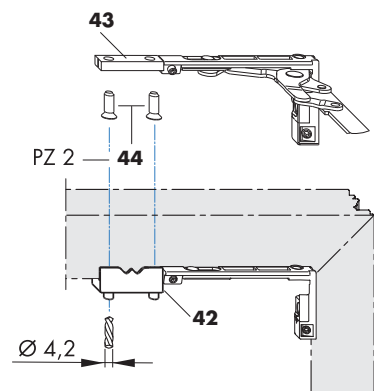

Fig. 1
1. Insert the BS axxent 130 jig kg (42) on loosened stay, as shown in the adjacent diagram (fig. 1).
2. Drill holes  $\varnothing 4.2$  for mounting bracket BSO A0040 (43).
3. Insert the BSO A0040 supporting piece (43) into the frame groove, position it on the stay and fix it in place with M5 x 13 countersunk screws (44).
4. Tighten the M5x13 countersunk screws (44) with a torque of  $2.5 \pm 0.25$  Nm.